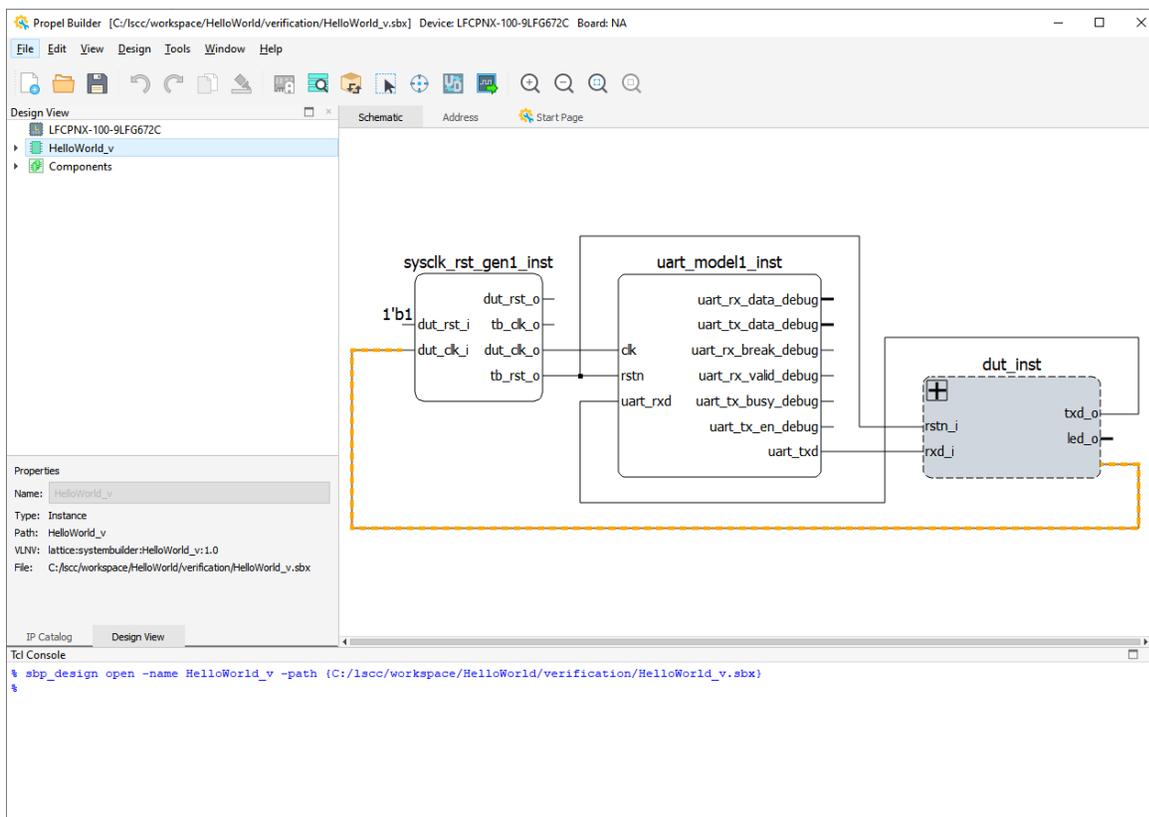

Figure 2.105. Switching to Project Verification
- Click **Yes** in the Propel Builder dialog box. The Propel Builder GUI switches to verify the project (Figure 2.105).